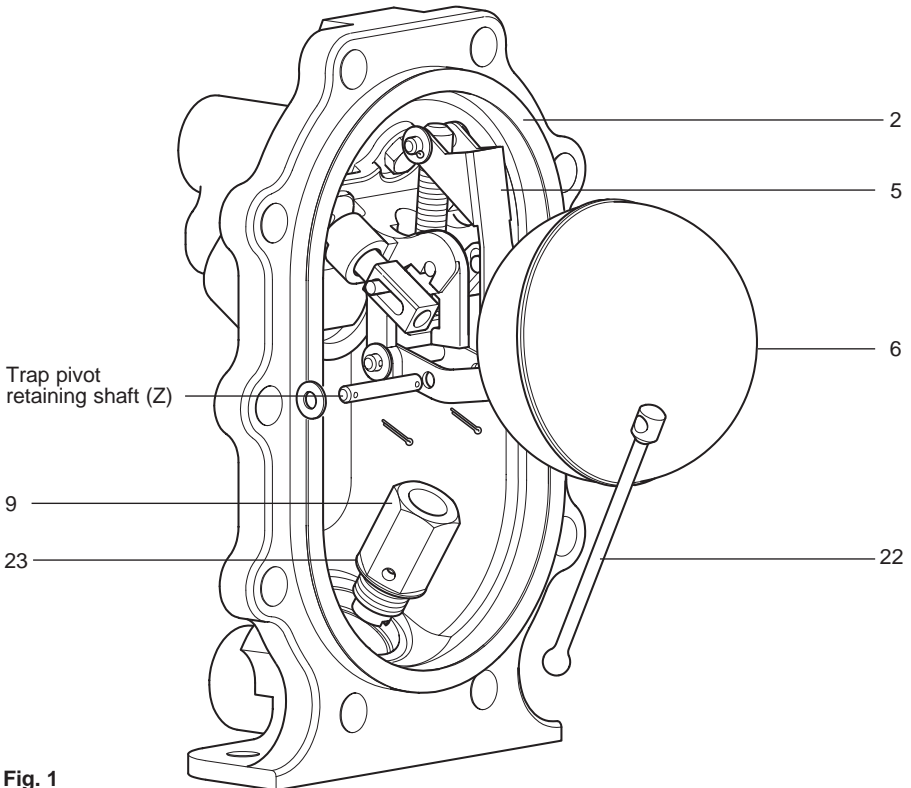

Fig. 1
3. Carefully fit a new gasket (item 2) into the existing body.
4. Remove split pin, washer and shaft from the trap pivot (Z) (See Fig. 1).
5. Remove trap valve stem (item 22) from the mechanism.
6. The float and lever (items 5, 6) can now be swung up out of the way leaving access to the trap and check valve assembly.
7. Using the 24 mm A/F socket unscrew the trap and check valve housing (item 9).
10. Before fitting a new mechanism, clean the trap housing bore within the cover ensuring any sludge or scale is carefully removed. Remember to fit a new gasket (item 23).
- 13. Refit the trap valve stem and trap pivot shaft (Z) (length 40 mm) remembering to use new split pins and washers - to the trap lever (item 5).
- 14. Move the float to its upper and lower limits to ensure the trap mechanism operates smoothly and the valve stem (item 22) slides smoothly within its guide.